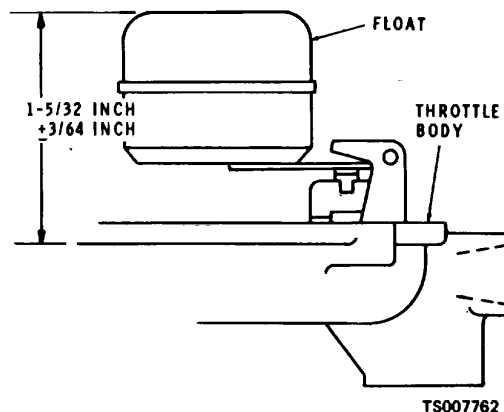

Figure 6-2. Float Level Adjustment.
d. After installing the float (12) and axle, check the position of the float. With the throttle body in an inverted position and viewed from the free end of the float, the float bodies must be centered and at right angles to the machined surface (fig. 6-2). The distance from the machined surface of the throttle body to the top side of the highest point of the float bodies must be  $1-5/32 + 3/64$  inches. To increase or decrease the distance between the float body and machined surface, use long-nosed pliers and bend the lever close to the float body.